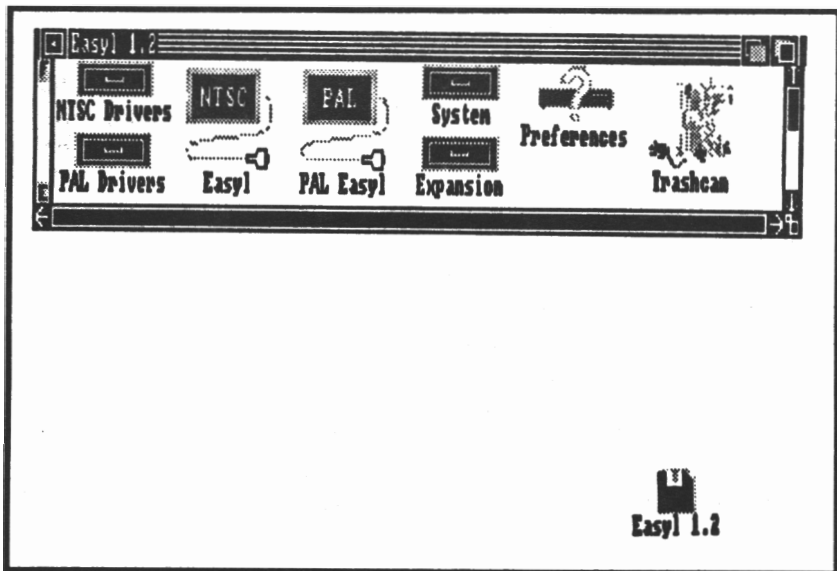

Figure 1 The Easy! 1.2 Window
- *An EasyL window will appear. See figure 1. Icons representing EASYL and PAL EASYL appear within the window. Click on the icon appropriate to your machine. See section 1.4.*